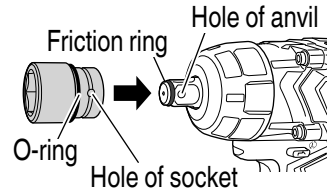

Fig. 9
- (1) Slide the O-ring out of the groove, then align the hole of the socket with the hole of the anvil and insert the anvil into the socket. (Fig. 9)